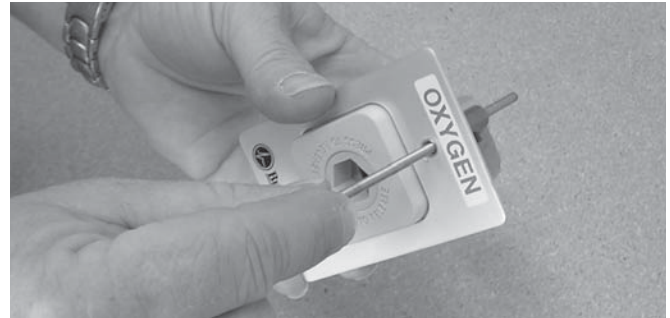

Figure 9
Step 5: Replace Existing Latch Valve screws with #6-32 x 3" screws provided in Kit (Figure 9)